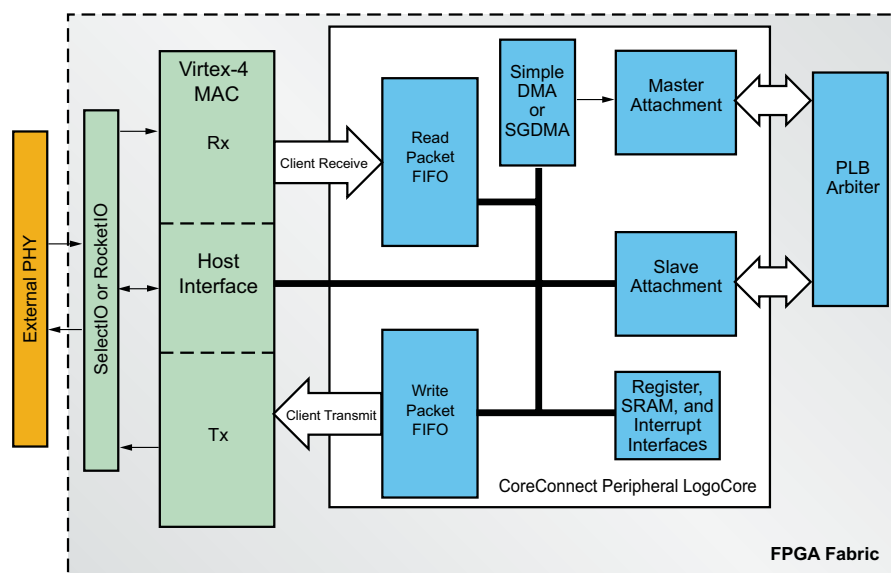

Figure 2 – Embedded MAC connected to embedded PowerPC as a PLB peripheral, with the addition of Xilinx CoreConnect LogiCORE IP
- Attach the MAC to CoreConnect PLB or OPB peripheral interface in FPGA fabric to embedded PowerPC or MicroBlaze™ processors, as in Figure 2.